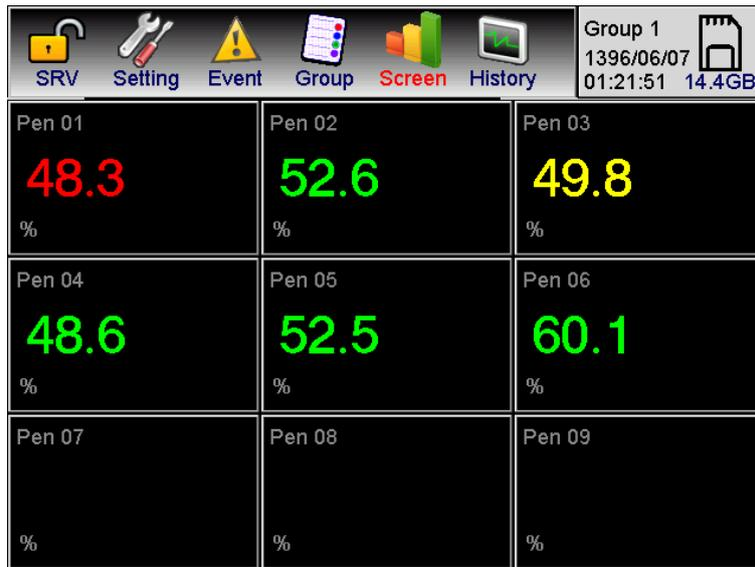

Figure J-3: Displaying alarm in Black indicator
- In the Black indicator submenu, if there are alarms on any of the pens (as shown in Figure J-3), the alarms are displayed by changing color in the numeric values. If there are any alarms, the numbers are yellow in Hi and L modes. , And are displayed in red in HH and LL modes.